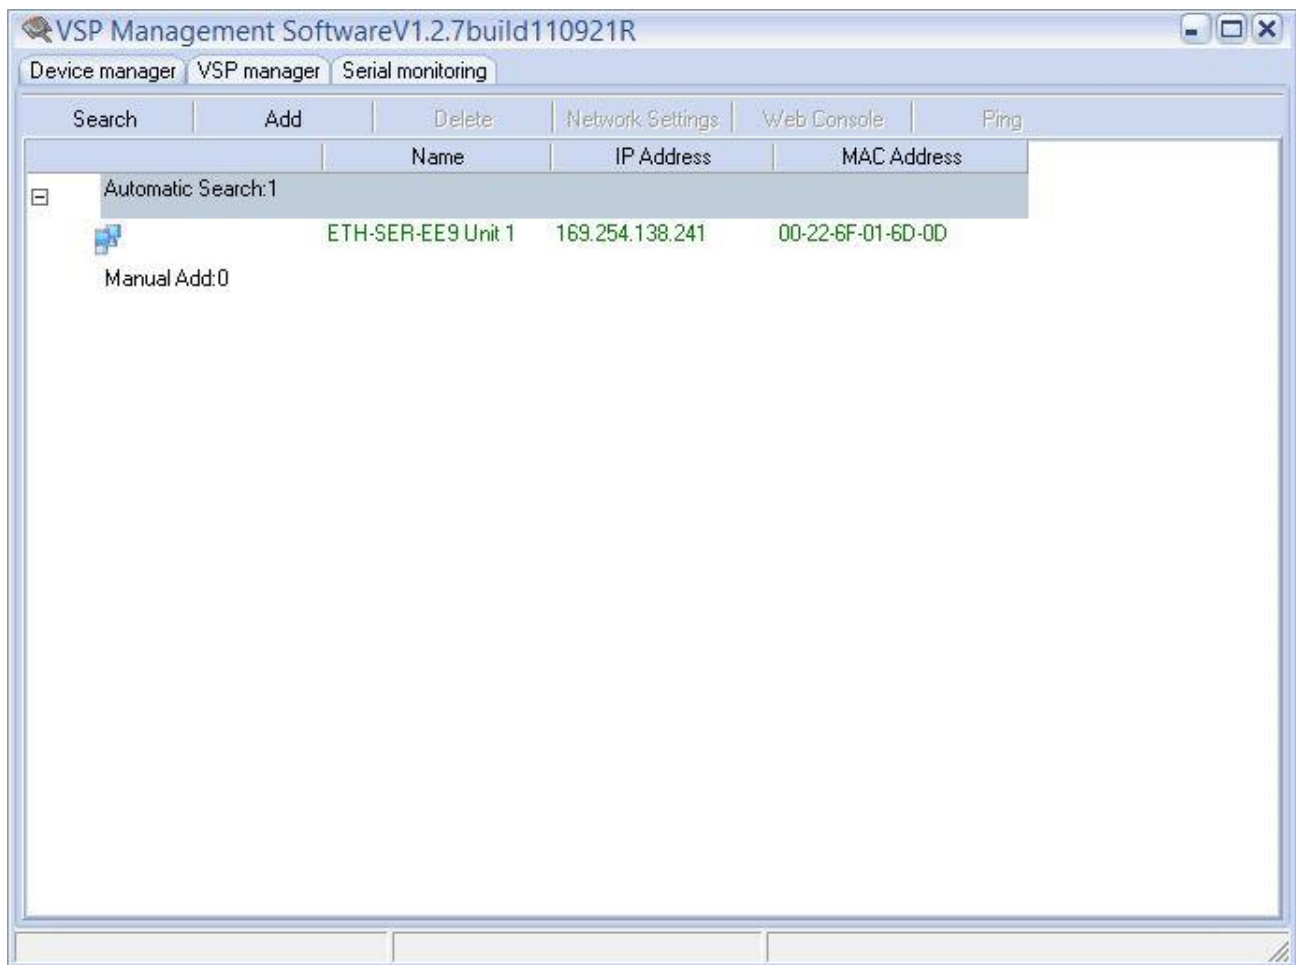

FIGURE 4.4 – SEARCH ETH-SER-EE9 DEVICE
- 5) Search for the attached ETH-SER-EE9 device. Our name is ETH-SER-EE9 Unit 1, IP 169.254.138.241 MAC 00-22-6F-01-6D-0D. (SEE FIGURE 4.4)